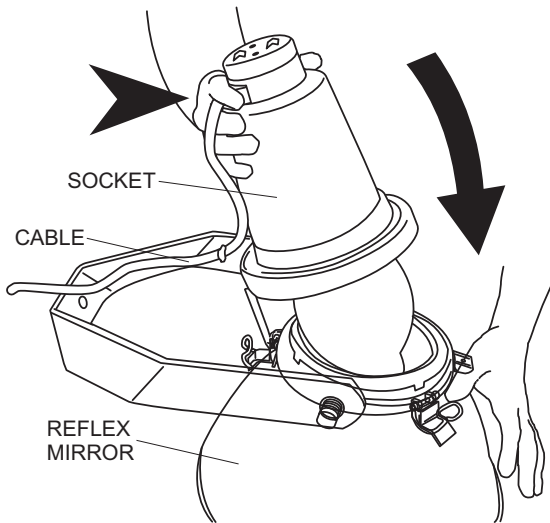

Figure 11. Positioning the Socket
- Adjust the reflex mirror and the socket together so that the cables of the two upper lighting units are positioned downward and the cables of the two lower lighting units are positioned upwards. See Figure 11.